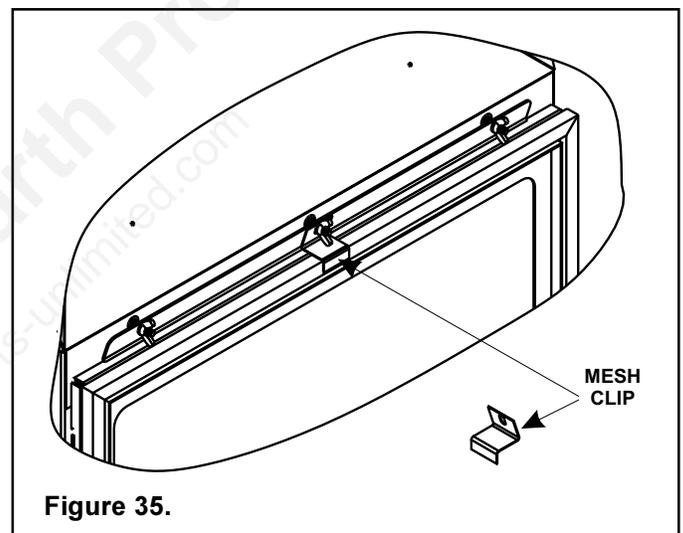

Figure 35.
- Ember material is to be placed on the burner with caution. NOTE: Do **NOT** place ember material over burner port holes. Place only dime size pieces along outer edges of port trails. This bag is sized for (4) ember applications. Failure to apply ember material as directed could result in poor lighting conditions and sooting problems. After placing ember material sprinkle GE-93 on top of the burner.
- Optional mesh (see Figure 35).